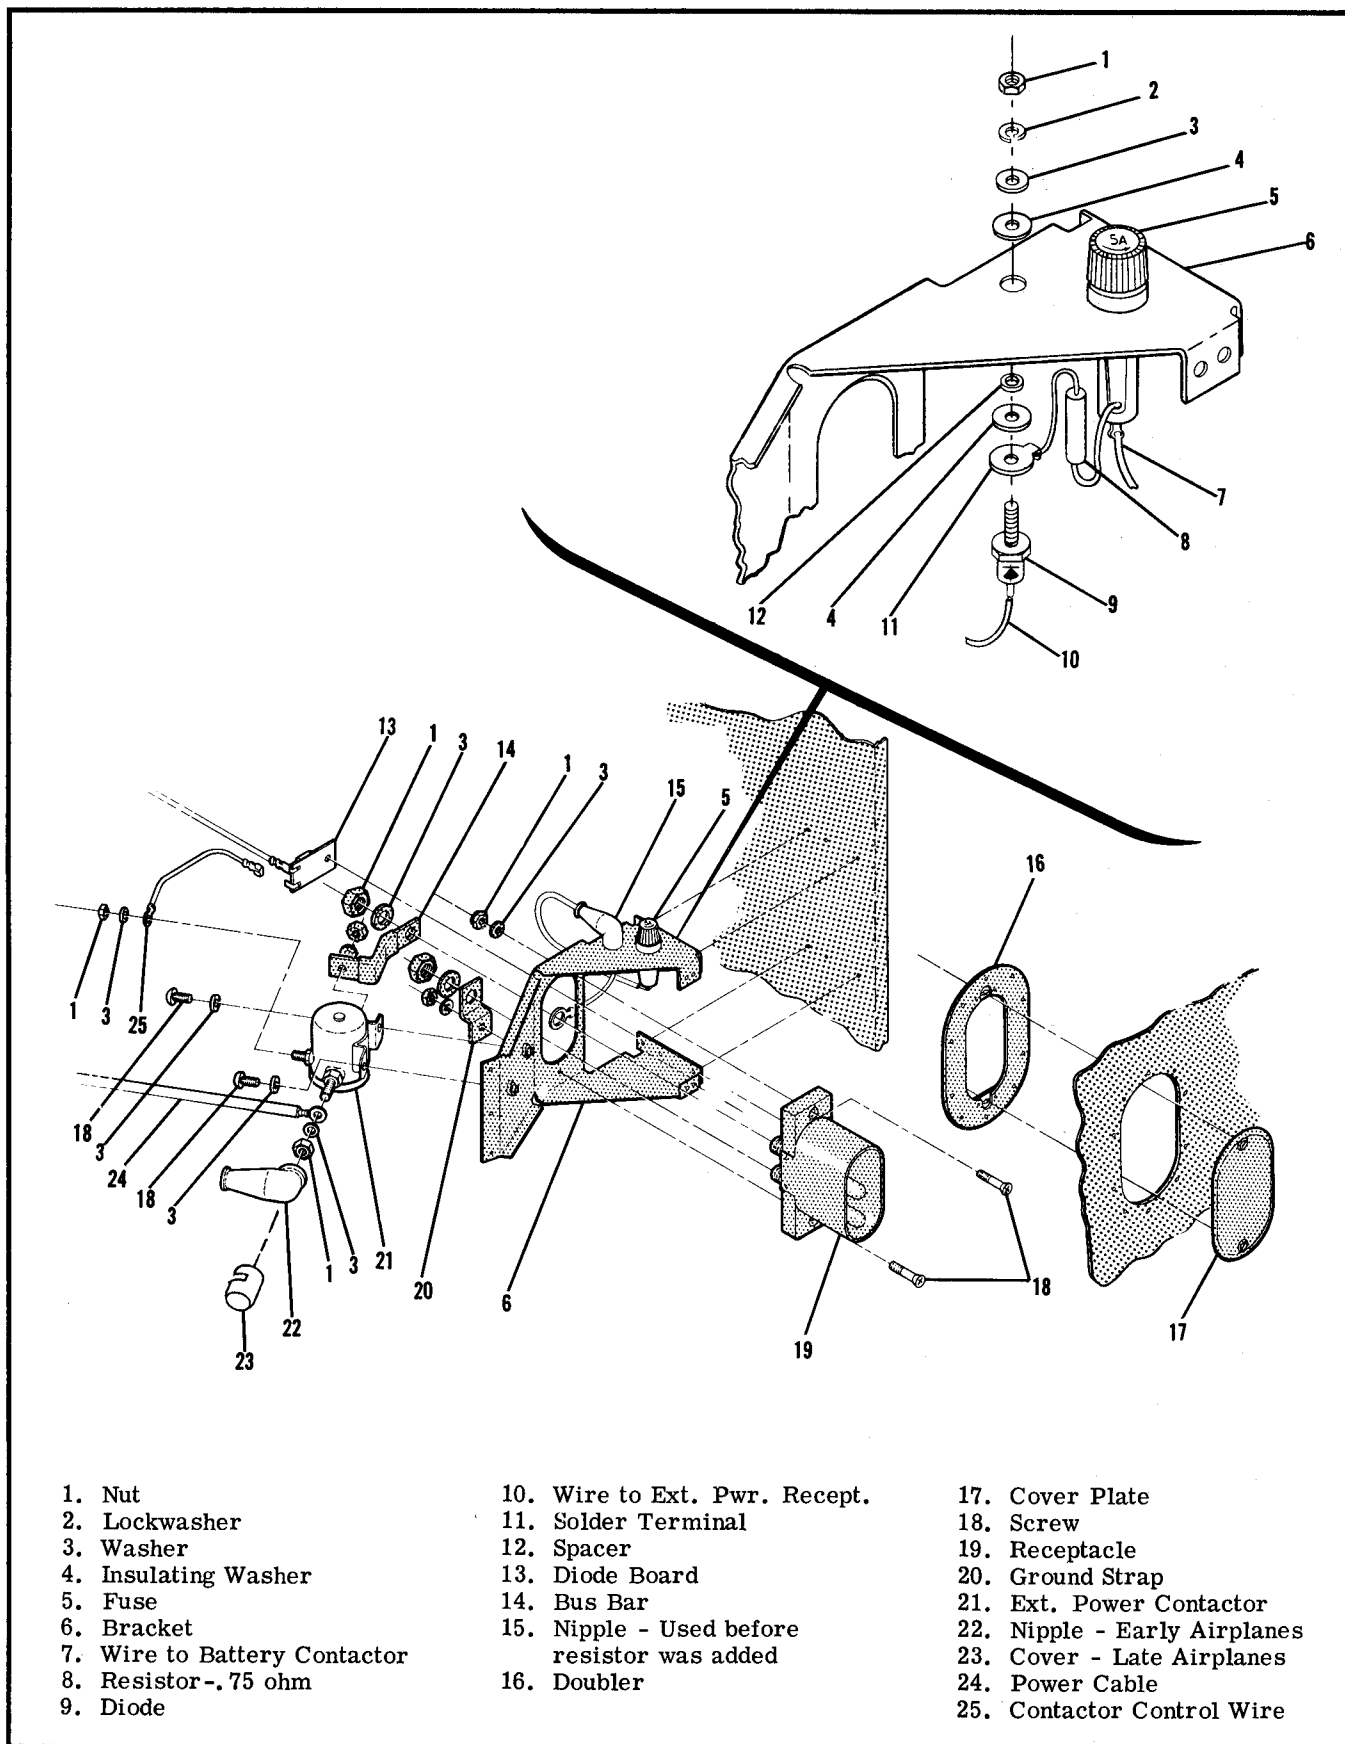

Figure 17-3. Ground Service Receptacle Installation
**17-22. BATTERY CONTACTOR CLOSING CIRCUIT.** This circuit consists of a 5-amp fuse, a resistor and a diode mounted on the ground service receptacle bracket. This serves to shunt a small charge around the battery contactor so that ground power may be used to close the contactor when the battery is too dead to energize the contactor by itself. (See figure 17-3.)
**17-25. REMOVAL AND REPLACEMENT OF THE GROUND SERVICE RECEPTACLE.** (See figure 17-3.)